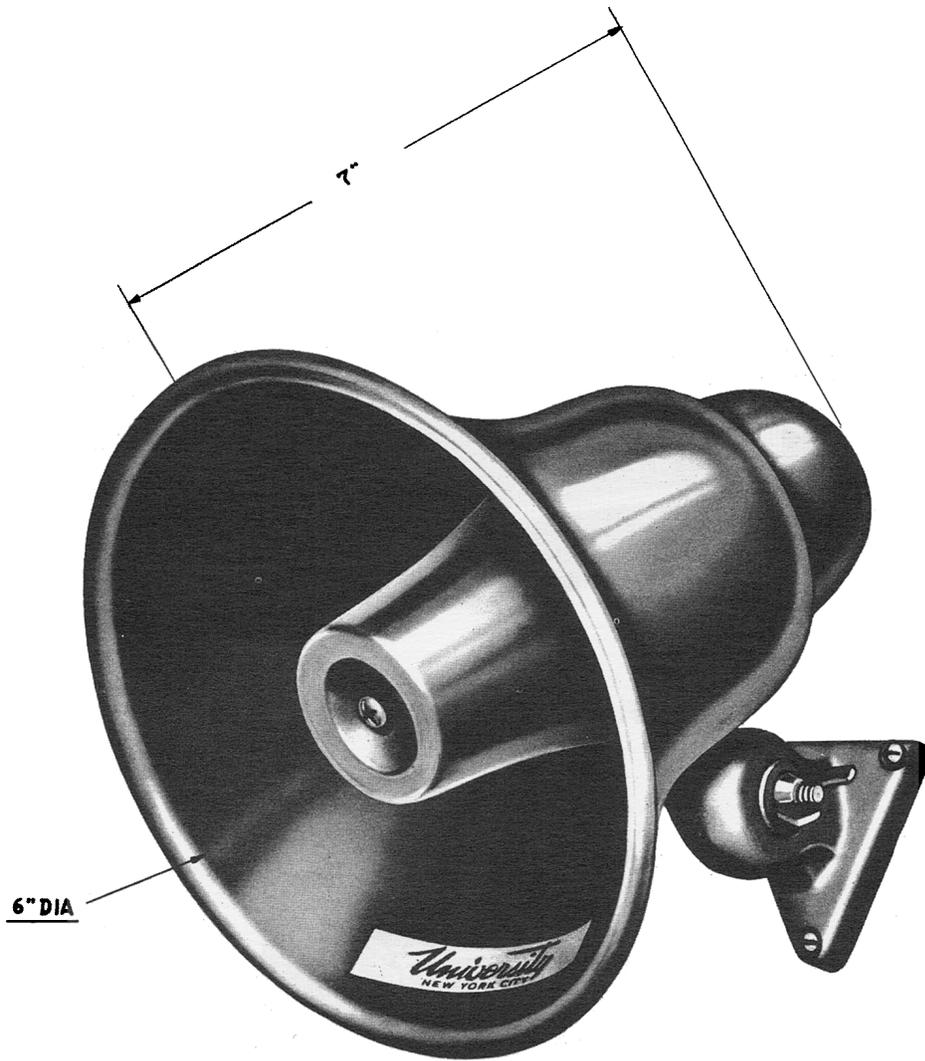

Fig. 5 - MIL-45 Speaker Station
2.16 Speaker station MIL-45 shown in Figure 5 is a 6-inch diameter horn, directional in operation, with built-in hermetically sealed driver unit for outside locations, or where the air is damp.